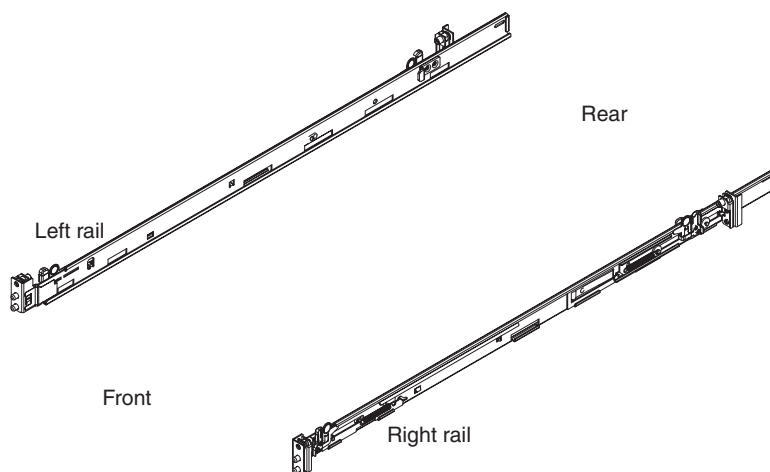

Figure 4. Orientation of the rails
1. Position the left and right mounting rails in the rack. Rail insertion is shown in Figure 4. Ensure that the two left blue tabs face the two right blue tabs. Pair the rails with the front sections together and the rear sections together, as the following information describes: